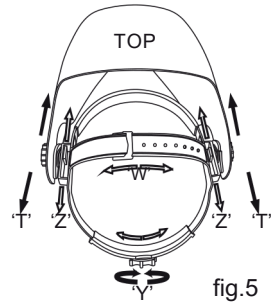

fig.5
The overall circumference of the headband can be made larger or smaller by rotating the knob on the back of the headband (See adjustment “Y” in fig. 5). This can be done while wearing the helmet and allows just the right tension to be set to keep the helmet firmly on the head without it being too tight.
- If the headband is riding too high or too low on your head, adjust the strap which passes over the top of your head. To do this, release the end of the band by pushing the locking pin out of the hole in the band. Slide the two portions of the band to a greater or lesser width as required, and push the locking pin through the nearest hole (See adjustment “W” in fig. 5).
Step 1: Undo the block nut (See “T” in fig.5) to adjust the distance between the helmet and your face in the down position.
Step 2: Loosen the block nut on either side of the helmet and slide it nearer or further from your face (See adjustment “Z” in fig.5). It is important that your eyes are an even distance from the lens. Otherwise, the darkening effect may appear uneven.